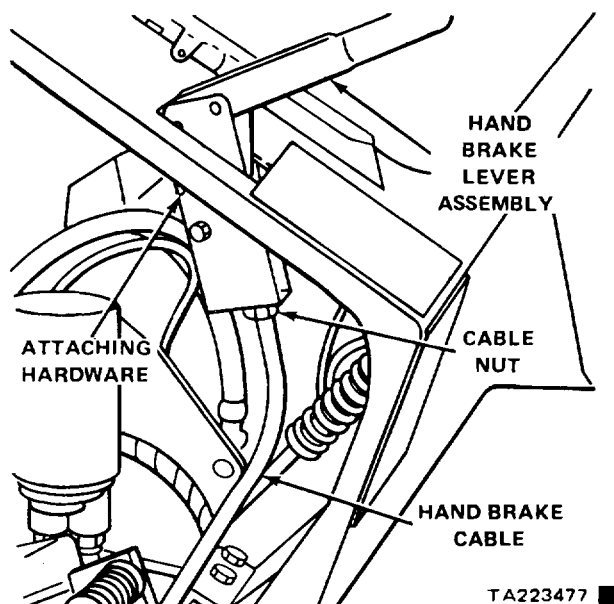

Figure 4-52. Hand Brake Lever, Removal and Installation
a. *Removal.* Refer to figure 4-52 and remove the complete hand brake lever assembly.